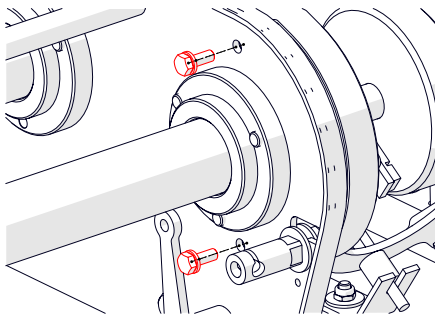

Fig. 17E - Remove bolts for belt guide.
6. Remove the 2 x M6 bolts securing the semi-circular belt guide [10 mm spanner] (Fig.17E).